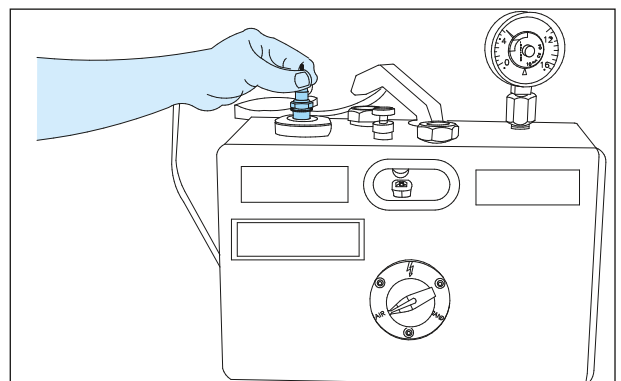

Fig. 2.33
- Remove the spark plug and clean the deposits by sand blasting and clean with compressed air in air in the spark plug cleaning machine. (Fig. 2.33)